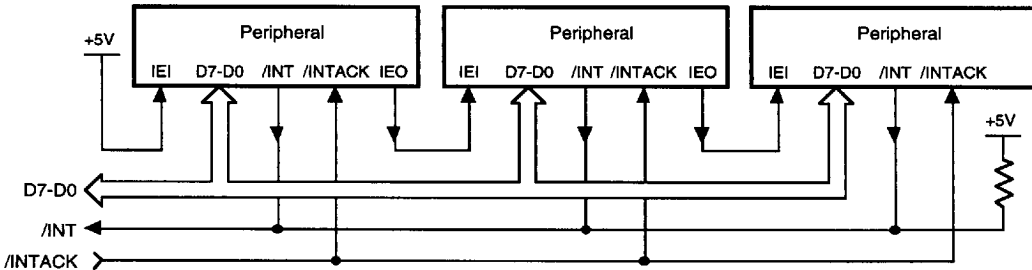

Figure 7. ESCC Interrupt Priority Schedule
Each of the six sources of interrupts in the ESCC (Transmit, Receive, and External/Status interrupts in both channels) has three bits associated with the interrupt source: Interrupt Pending (IP), Interrupt Under Service (IUS), and Interrupt Enable (IE). Operation of the IE bit is straightforward. If the IE bit is set for a given interrupt source, then that source can request interrupts. The exception is when the MIE (Master Interrupt Enable) bit in WR9 is reset and no interrupts can be requested. The IE bits are write only. The other two bits are related to the interrupt priority chain (Figure 7). As a microprocessor peripheral, the ESCC may request an interrupt only when no higher priority device is requesting one, e.g., when IEI is High. If the device in question requests an interrupt, it pulls down /INT. The CPU then responds with /INTACK, and the interrupting device places the vector on the data bus.